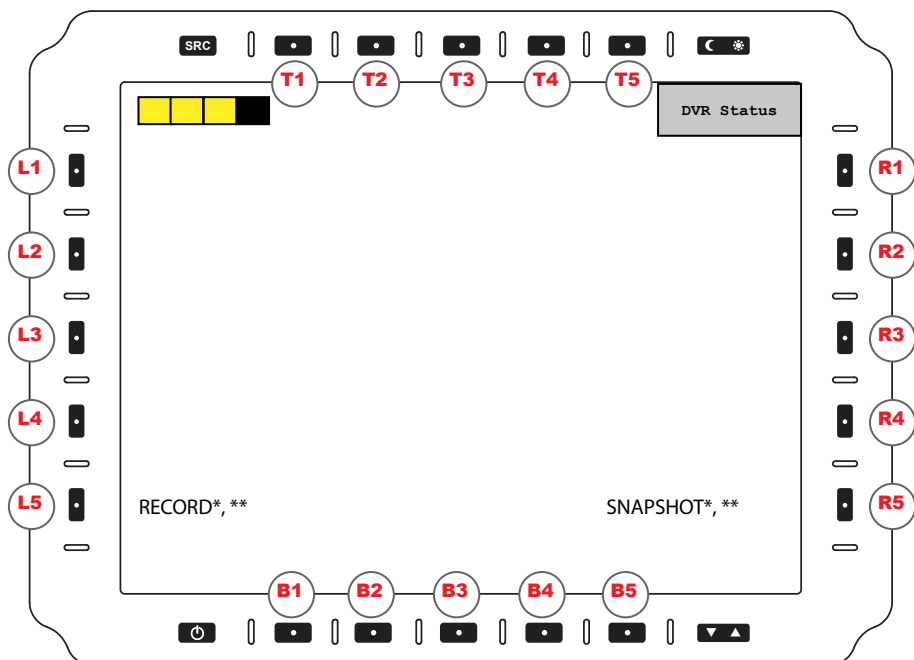

Figure 4
The front bezel twenty (20) softkeys are in a layout of five keys on the left (L1-5), right (R1-5), bottom (B1-5) and top, (T1-5) (Figure 4). Use these keys to select on-screen menu options. The keys are illuminated in Day or Night mode and off in OFF mode. Night luminance is subdued to match existing platform night lighting. At Power ON, the above view is on the display screen. Note: RECORD and SNAPSHOT keys are preset yet can be moved to other programmable keys.
- **EXIT (R5).** Returns to Power ON view (Figure 4).